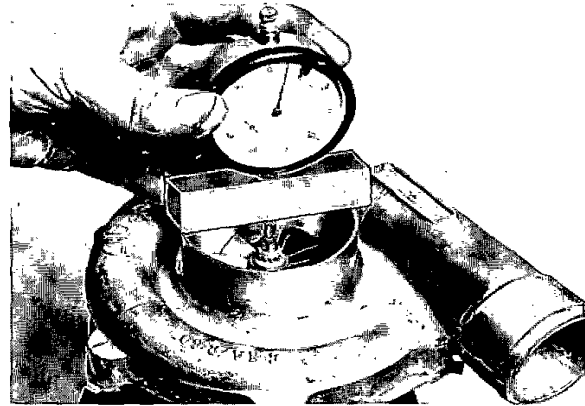

Fig. 209. Measuring the axial clearance
1. Place a dial indicator with an 8 mm (5/16") shank in the holder as shown in fig. 209. Secure the dial indicator.